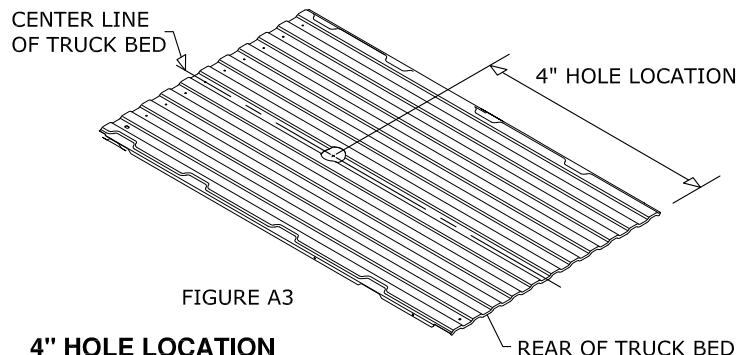

FIGURE A3
7. Mark the 4" hole location. Using a tape measure hooked over the rear edge of the bed (at tailgate end), measure the location for the hole as shown in figure A3. Next, locate the center of the bed by measuring the distance between the wheel wells and dividing by two. The center of the hole will be at the intersection of the center of the bed and the first distance measured.